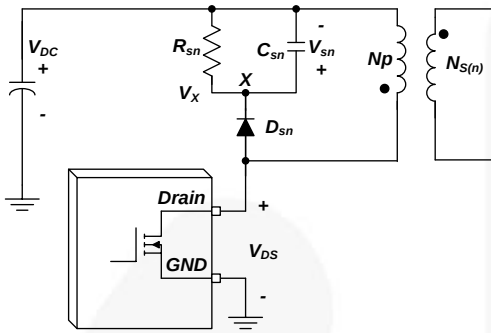
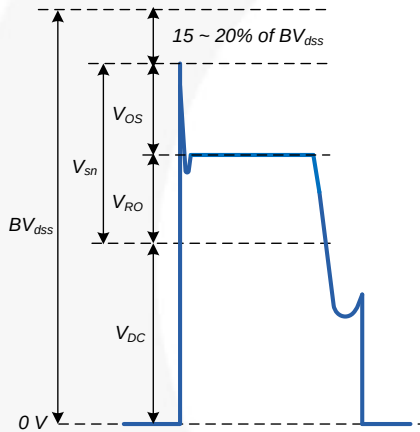

Figure 29. Primary-Side RCD Snubber Circuit
Figure 30. MOSFET Drain Voltage Waveforms
The RCD snubber circuit and MOSFET drain voltage waveform are shown in Figure 29 and Figure 30, respectively. The RCD snubber network absorbs the current in the leakage inductance by turning on the snubber diode (D_{sn}) once the MOSFET drain voltage exceeds the voltage of node X as depicted in Figure 29. In the analysis of snubber network, it is assumed that the snubber capacitor is large enough that its voltage does not change significantly during one switching cycle.
increases, the V_{sn} also increases. The R_{sn} recommended value is between 200 k Ω and 47 k Ω . Check if V_{ds}^{max} is below 800 V (80% of rated voltage of the SenseFET) as shown Figure 30. Choose 2.2 nF and 150 k Ω for C_{sn} and R_{sn} in this application note.
- **3** should be a point-discharger route to bypass the static electricity energy. As shown in Figure 30, it is suggested to map out this discharge route.